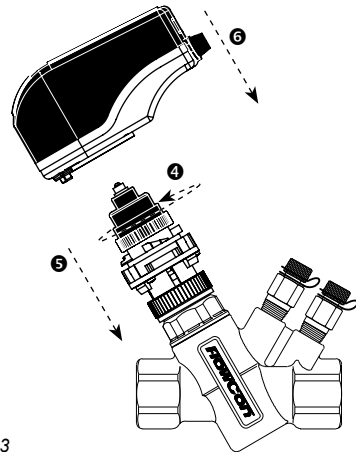

Figure 3
**4** Rotate the black knob on the valve adaptor counter clockwise (figure 3) so that the valve adaptor stem and the green indicators are in top position. **5** Mount the valve adaptor on the insert (which must already be installed in the valve body) and finger tighten the connection union. Do not use additional tools.